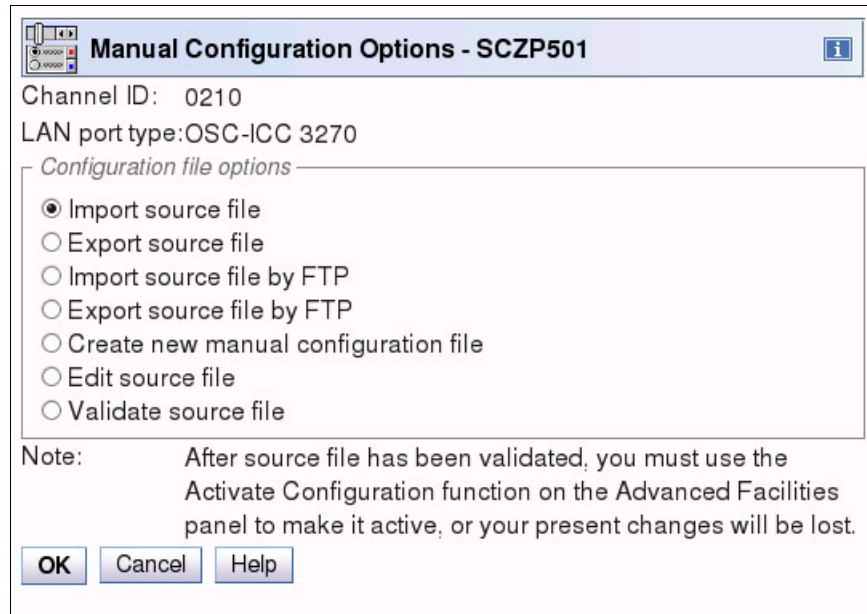

Figure 14-80 OSA Advanced Facilities: export source file
5. The Manual Configuration Options panel opens. Select **Import source file** and click **OK** (Figure 14-80).